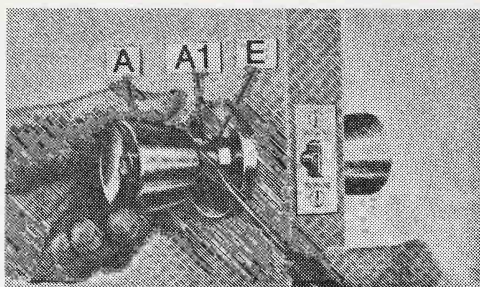

Fig. 10-1.
1. Refer to Fig. 10-1. Depress the catch (A1) through the hole in the shank of the inside knob (A) with a screwdriver to release the inside knob from the spindle (E).